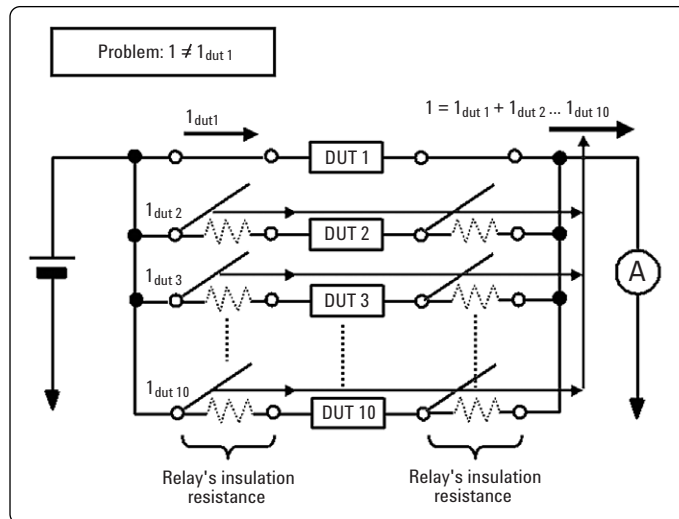

Figure 14. Leakage current in insulation resistance measurement
- When the leakage current of the insulation resistance is measured by using a scanner, the channels other than the tested channel are set to OPEN status, and these are considered to be the insulation resistances. Then, when the DUT's insulation resistance is smaller than the resistance of the scanner relay's OPEN ($> 10^8$ ohm) status, the scanner's OPEN status causes measurement error. In Figure 14, when the leakage current I_{dut1} is measured, the leakage currents ($I_{dut2} + I_{dut3} \dots + I_{dut10}$) through OPEN state channels are added to the I_{dut1} . Therefore, the ammeter measures the sum of I_{dut1} through I_{dut10} , and I_{dut1} cannot be measured correctly.